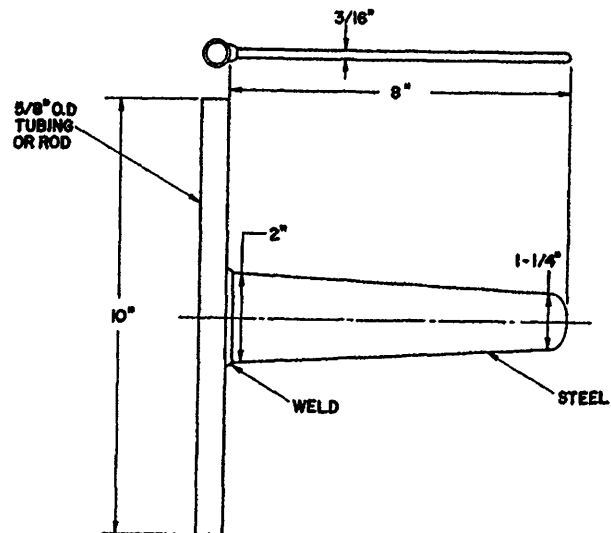

Figure HE-108-10 -- Coil Spacing Tool
- R6. Using a tool such as the one shown in Figure HE-108-10, make sure that the coils are evenly spaced throughout the Heater. Insert the tool flat between the coil tubes and twist the tool until the desired spacing is obtained.
- R7. Clean all gasket surfaces thoroughly. Place the Gasket (41) on the Heater bottom head flange. AERCO recommends that new Gaskets (41) be used whenever reassembling either the top or bottom head to the shell.